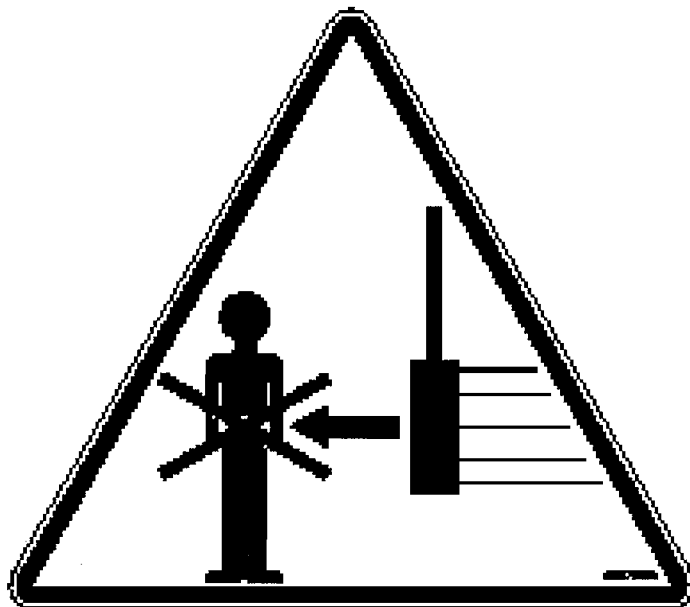

Fig.: 2-1
**ALWAYS MAKE SURE THAT NOBODY IS IN THE HAZARD AREA OF THE WRAPPING ARM WHEN THE MACHINE IS IN USE (fig 2-1).**